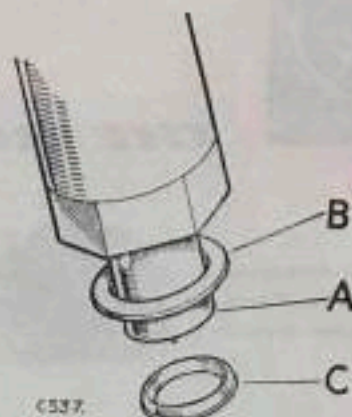

Fig. 2. Position of injector nozzle washers
8. Smear new injector copper joint washers with grease and fit one to each injector. Insert a new corrugated sealing washer into each injector nozzle recess in cylinder head with the raised portion upwards, then locate the injector nozzles; do not tighten the clamping bar fully at this stage. Ensure that the bottom seal washer (corrugated) is replaced correctly when refitting the injectors. See Fig. 2.